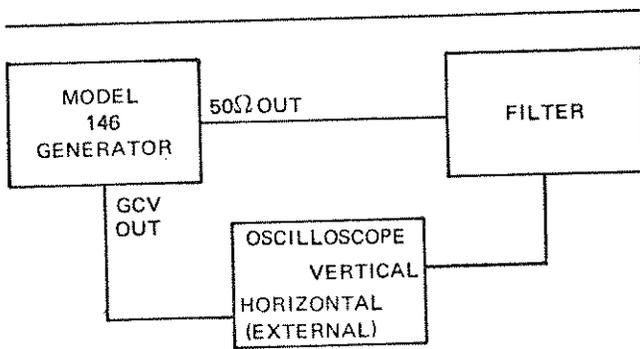

Figure 2-9. Test Setup for an Oscilloscope
Figure 2-9 shows a typical test setup in which GCV is used. The following step-by-step procedure demonstrates how to use GCV with an oscilloscope. In this example, assume that a filter is to be swept and a frequency versus amplitude plot is required.
10. Connect the instruments as shown in Figure 2-9. Be sure scope is in the external horizontal mode.